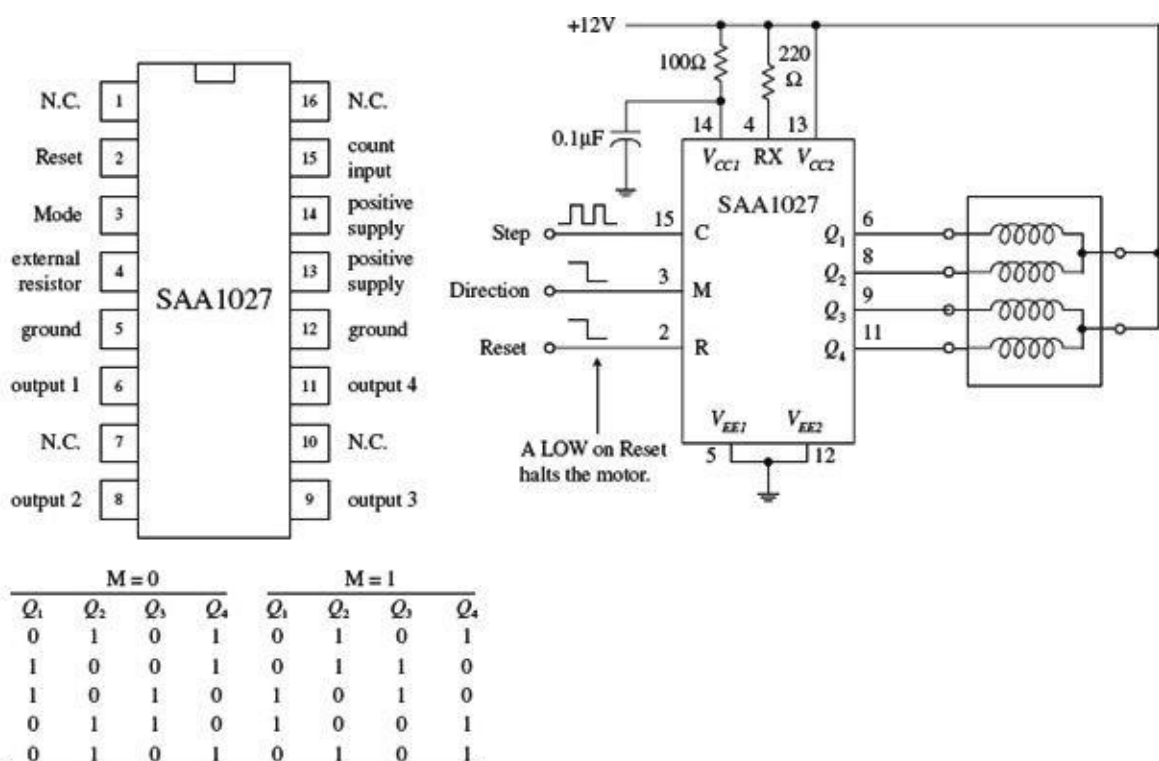

FIGURE 14.13
Perhaps the best translator circuits you can hope for come in integrated packages. A number of manufacturers produce stepper motor controller ICs that house both the translator and driver sections. These chips are fairly simple to use and inexpensive. A classic stepper controller chip is the Philips SAA1027. The SAA1027 is a bipolar IC that is designed to drive four-phase steppers. It consists of a bidirectional four-state counter and a code converter that are used to drive four outputs in sequence. This chip has high-noise-immunity inputs, clockwise and counterclockwise capability, a reset control input, high output current, and output voltage protection. Its supply voltage runs from 9.5 to 18 V, and it accepts input voltages of 7.5 V minimum for high (1) and 4.5 V maximum for low (0). It has a maximum output current of 500 mA. Figure 14.13 will paint the rest of the picture.